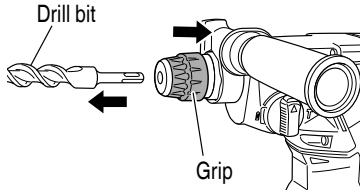

Fig. 12
- (3) Check the latching by pulling on the drill bit.
- (4) To remove the drill bit, fully pull the grip in the direction of the arrow and pull out the drill bit. (Fig. 12)